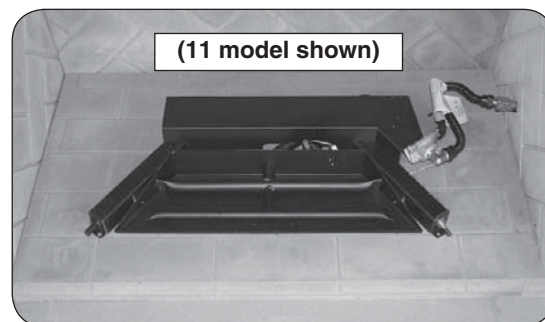

Fig. 18-2 Center burner in fireplace
3. Place the burner system in the fireplace. Center the burner from left to right in the fireplace. See Fig. 18-2.